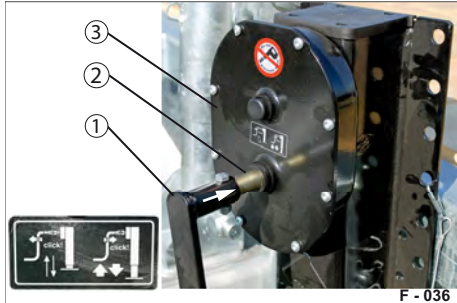

Fig. 47 Switching on low gear
- ▶ Leave the crankshaft (Fig. 47/2) in low gear (pressed in).
- ▶ Press the crankshaft (Fig. 47/2) into low gear.